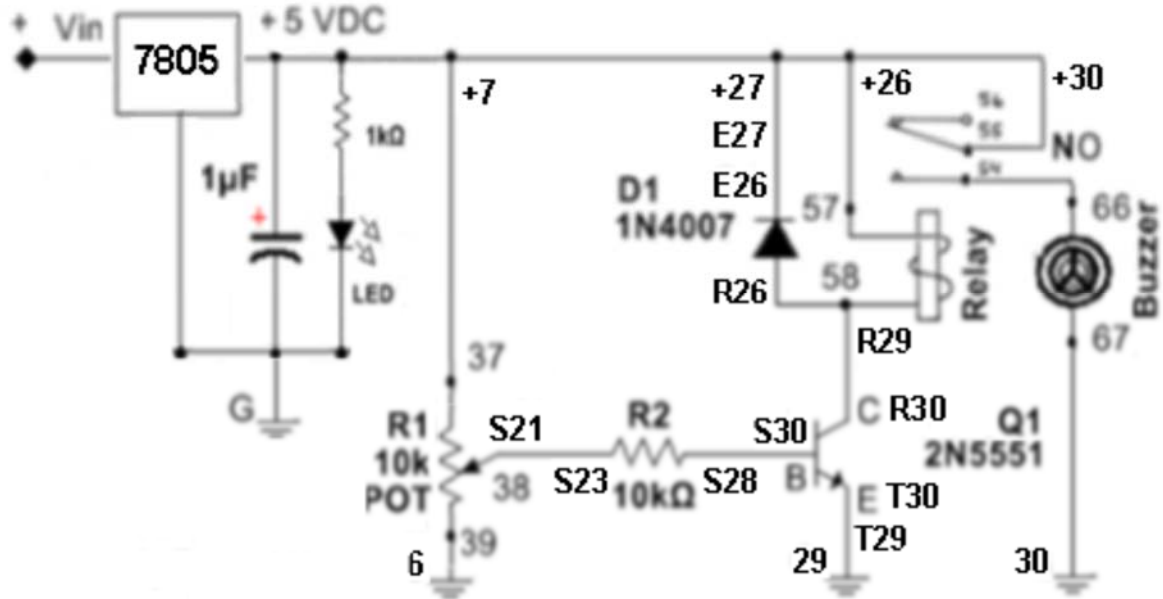

Figure 4.3. 7805 Voltage Regulator and Transistor Switch Circuit
4.3) Starting with the 10Kohm pot, R₁, and the 2N5551 NPN transistor Q₁ connected as you had wired them in Module 3, remove the 1K resistor and LED from that circuit, *replace the 100K resistor with R₂ = 10Kohm, and add the 1N4007 diode, the relay and the buzzer*, to complete Figure 4.3, above. NOTE: In future schematics we will NOT repeat the voltage regulator, but use its +5 Volt output unless otherwise indicated